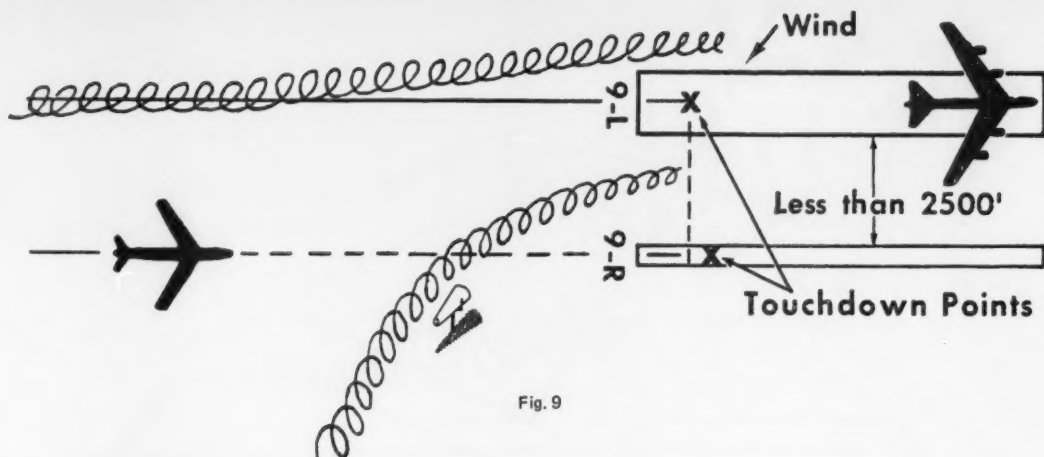

Fig. 9
- Landing behind a large aircraft when a parallel runway is closer than 2,500 feet. Consider possible drift to your runway. Stay at or above the large aircraft's final approach flightpath and note its touchdown point (see Fig. 9).